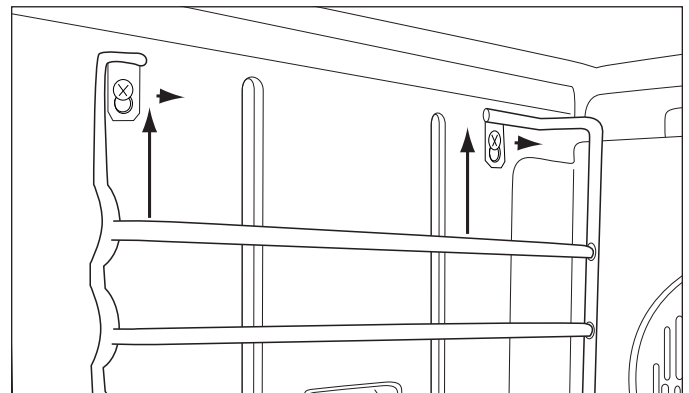

Figure 4-24A. Removable Rack Guides.
**NOTE:** On units starting with serial #16000000 the oven rack guides remove without extracting any screws. Simply lift upwards on the rack to disengage the shoulder screw from the keyhole slot on the rack guide and remove. (See Figure 4-24A)